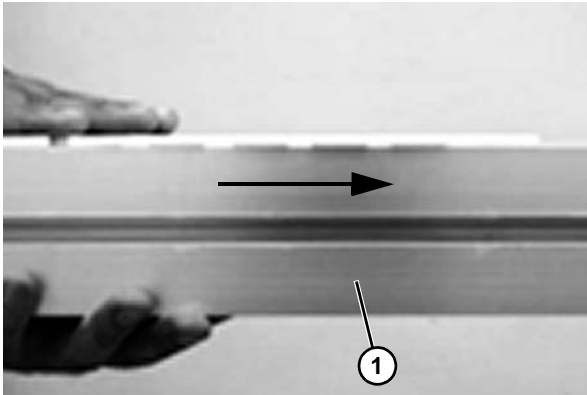

Figure 52
2. Feed the chain along the conveyor (**Figure 52, item 1**) by pulling it through the idler unit and back to the drive unit.